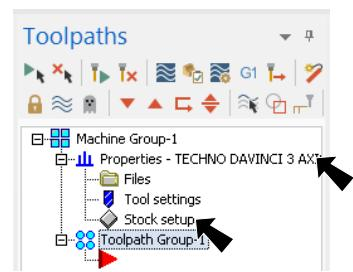

Fig. 38
**Fig. 38** on the Machine tab , click Machine  > Default from the menu.